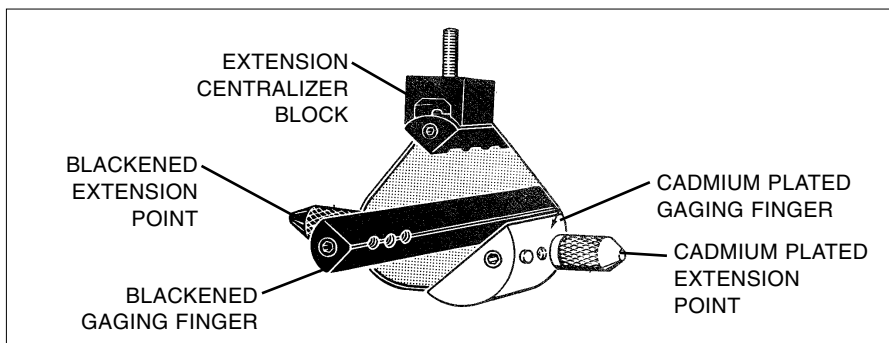
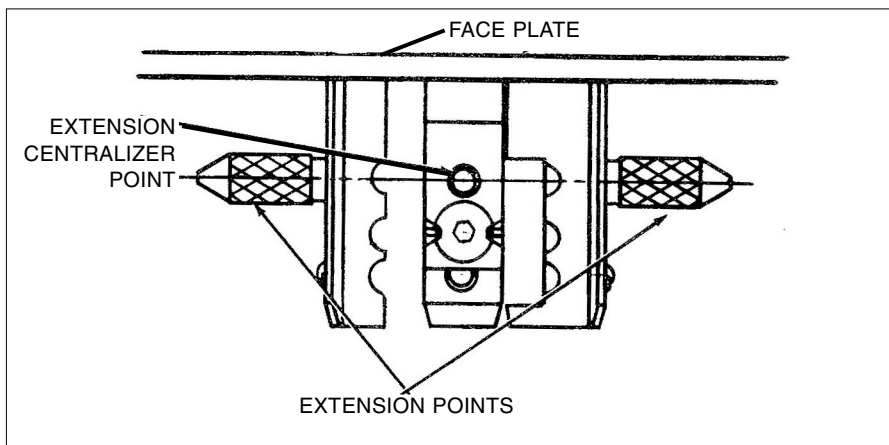

FIGURE 8
FIGURE 9
For measuring hole diameters from $1\frac{1}{2}$ to $2\frac{1}{4}$ in. use medium range extension points, and for diameters from $1\frac{15}{16}$ to $2\frac{11}{16}$ in. use large range extension points (see Figure 8).
2. Clean threads and seats of gaging points care fully; and screw into rear tapped holes in gaging fingers until finger tight (see Figure 9). Assemble proper centralizer block to centralizer arm - - captive screw goes in center threaded hole. To identify proper centralizer block (refer to Figure 8).